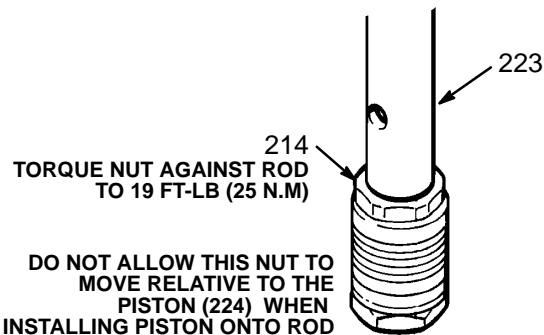

Fig 14
4. Torque the nut (214) against the rod (223) to 19 ft-lb (25 N.m). Use two wrenches to maintain the alignment as mentioned in the **NOTE**. See Fig 14.